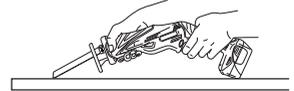
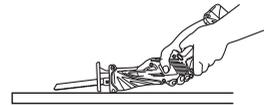
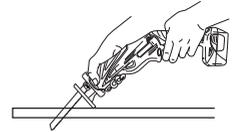
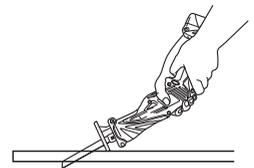

Fig. 28
Fig. 29
Fig. 30
Fig. 31
With this tool, you can perform plunge cutting on plywood panels and thin board materials. You can carry out pocket cutting quite easily with the saw blade installed in reverse as illustrated in **Fig. 29**, **Fig. 31**, and **Fig. 33**. Use the saw blade that is as short and thick as possible. We recommend for this purpose that you use BI-METAL Blade No. 107 mentioned, **Table 3 on page 36**. Be sure to use caution during the cutting operation and observe the following procedures.
- (1) Press the lower part (or the upper part) of the base against the material. Pull the switch trigger while keeping the tip of the saw blade apart from the material (**Fig. 28**, **Fig. 29**).
- (2) Raise the handle slowly and cut in with the saw blade little by little (**Fig. 30**, **Fig. 31**).